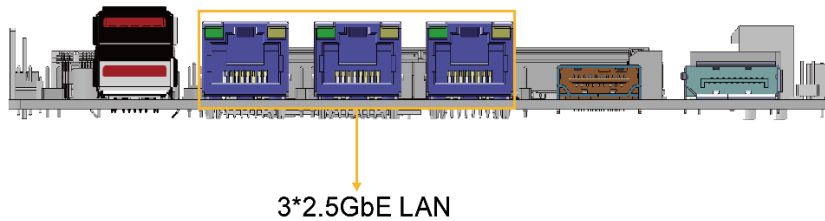

Figure 3-25: LAN Location
- CN Location:** See Figure 3-25